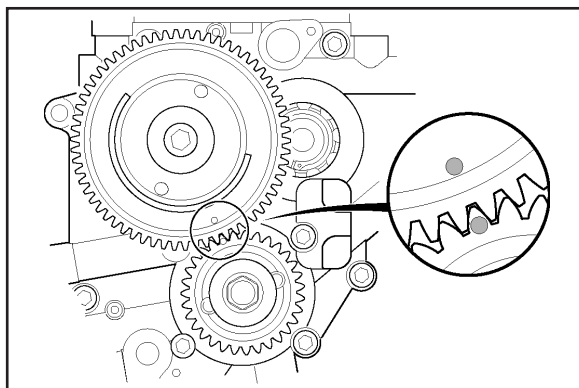

Figure 4
- N. Place transmission in high gear and turn rear wheel to rotate engine so that when the crankshaft pinion gear is installed, the timing mark will line up with the timing mark on the rear cam drive gear. See **Figure 4 below left**.